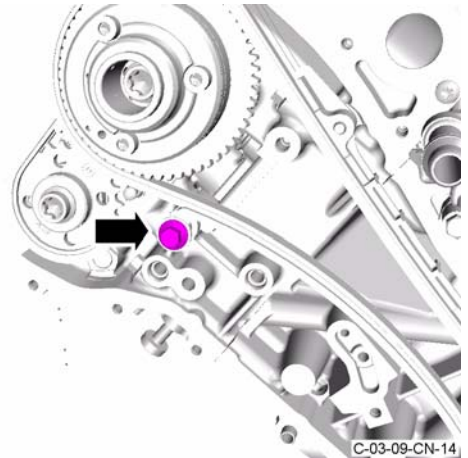

Figure 19
2. Install and torque the special bolt that attaches the tensioner arm to the engine to 11 Nm (refer to Figure 19).